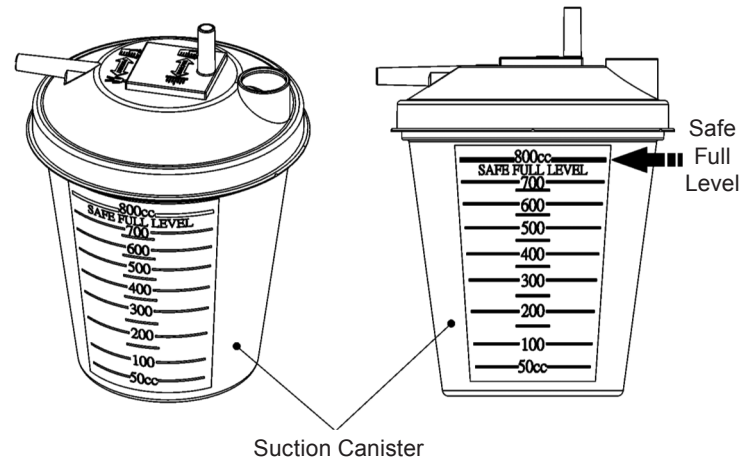

Figure 5
8. When the Suction Canister reaches a safe, full level (800 cc), the suctioning will stop automatically. The float shut-off, located under the lid, will activate to avoid over-filling (Figure 5).